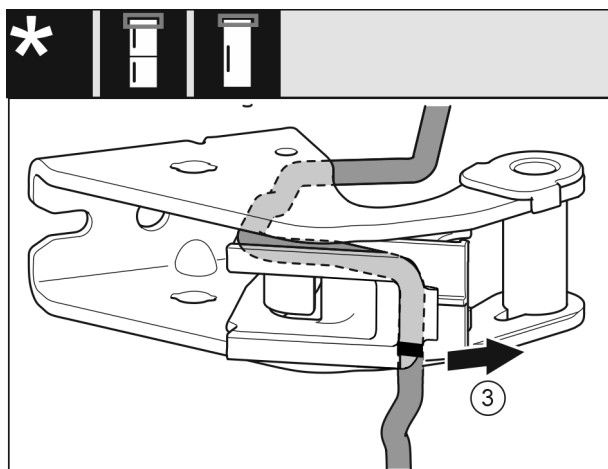

Fig. 25
- Remove the cable with the cable holder from the bearing bracket. Fig. 25 (3)